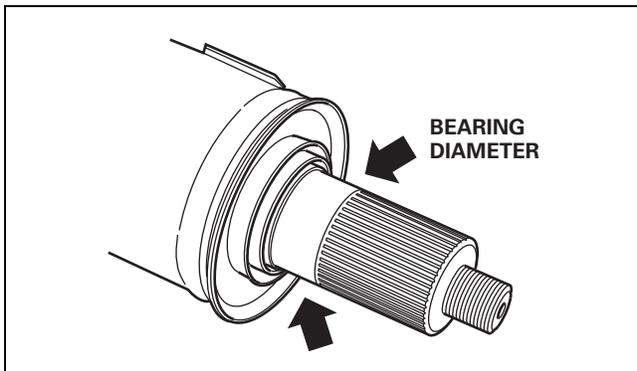

Figure 9.15
- **If the coupling shaft is damaged from a seized bearing:** Replace the entire coupling shaft. Figure 9.15.